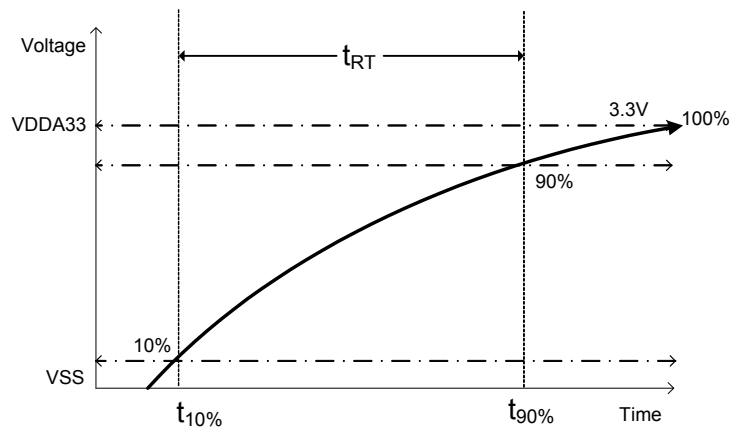

Figure 9.1 Supply Rise Time Model
**Note 9.4** The power supply rise time requirements vary dependent on the usage of the external reset (RESET\_N). If RESET\_N is asserted at power-on, the power supply rise time must be 10mS or less ( $t_{RT(max)} = 10mS$ ). If RESET\_N is not used at power-on (tied high), the power supply rise time must be 1mS or less ( $t_{RT(max)} = 1mS$ ). Figure 9.1 illustrates the supply rise time requirements.